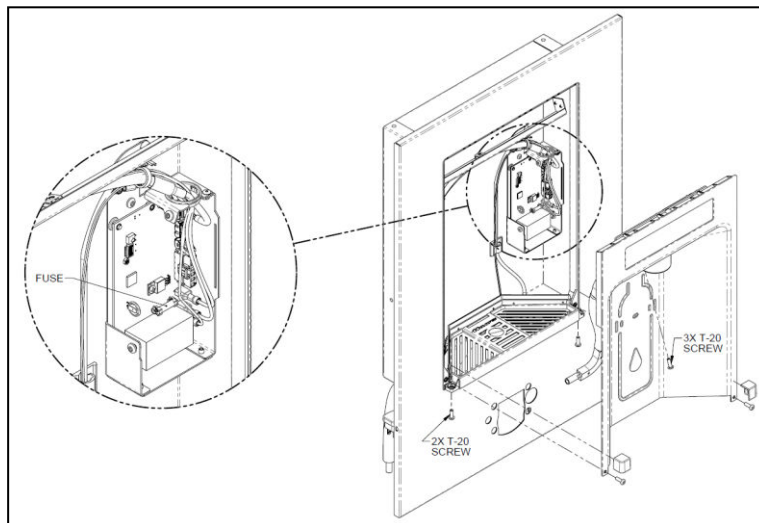

Figure 3 Fuse Replacement on Main Board, Behind Bottle Filler Alcove
3. Remove (2) T20 Torx screws underneath the molded corner covers on both the left and right side of the bottle filler platform. See Figure 3. **NOTE:** for 1109/1119 models, fountains must be removed to access these screws.
4. Remove (2) T20 Torx screws behind molded corner covers and (1) T20 Torx screw behind bottle filler nozzle.
6. Remove (2) T20 Torx panel screws securing main board cover.
8. Replace fuse according to the following table. (2) Spare Fuses are included inside bottle filler enclosure. Make sure fuse is centered in clips before pressing into place.